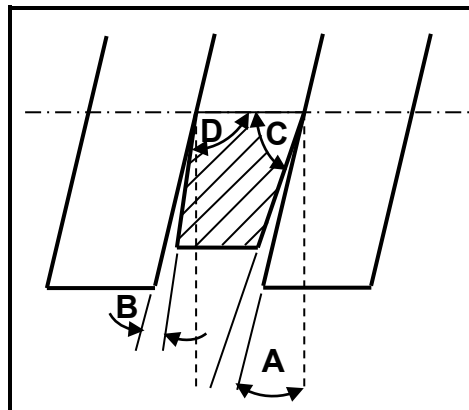

FIGURE 10.3
10.3 FIGURE 10.3 below shows a left-hand square screw thread cutting tool. Label angles **A–D**.